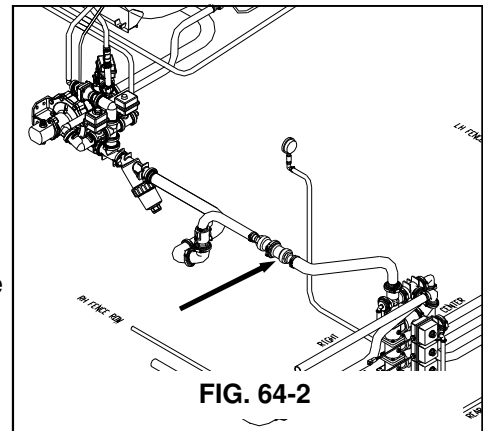

FIG. 64-2
**FLOW METER**– The flow meter located in the main solution line (fig. 64-2) monitors the solution flow and sends information back to the console and control valve. If the flow rate is not within the parameters programmed, the control valve will compensate by either opening or closing. If the rate continues to be outside the parameters an alarm will sound signaling a low flow rate. (See the Raven Console guide for more information on low flow limit)